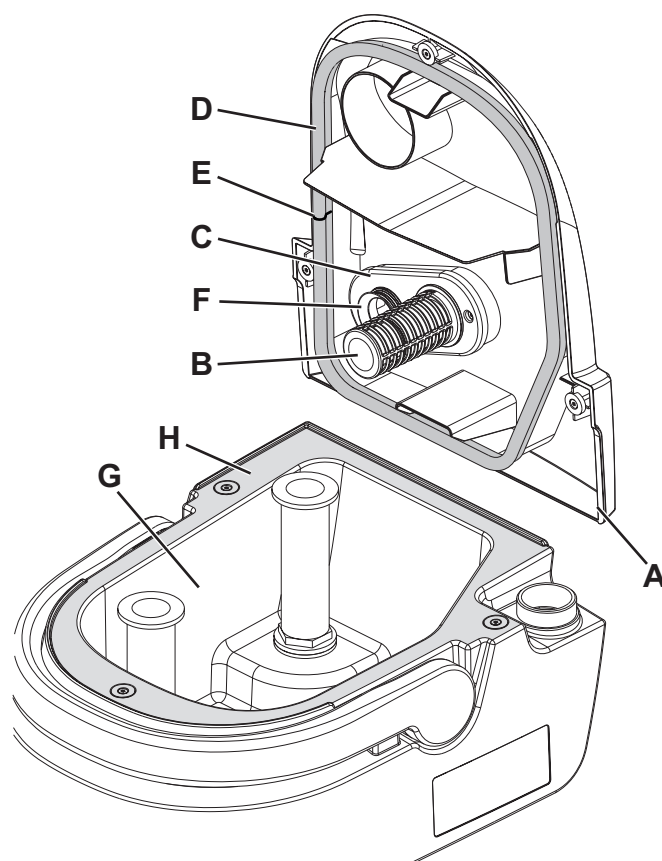

Figure 11
1. Lift the tanks container (13) from the machine body using the handle (15).
2. Remove the cover (A, Fig. 11) and clean it with hot water.
3. Remove the suction grid (B) along with the float and clean them thoroughly.
4. If necessary, remove the body (C), then clean with care and reinstall.
5. Check the recovery tank cover gasket (D) for integrity.